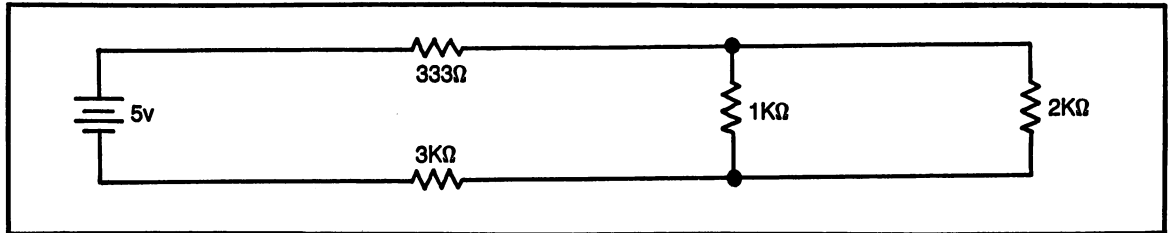

Fig. Ex1-6. Problem 50.
- (50) Use the circuit in Fig. Ex1-6 to find total resistance.